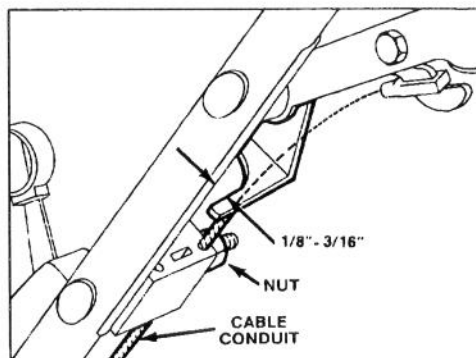

Figure 20
2. **CHECK ADJUSTMENT** (Fig. 20) — Move control bar toward handle until slack in wire is removed. Gap between brake lever and handle must be $1/8'' - 3/16''$. See step 3 for adjustment.
3. **ADJUST CABLE CONDUIT** — Loosen nut on cable bracket (Fig. 20). Insert $1/8'' - 3/16''$ object between brake lever and handle. Pull down on cable conduit until slack is removed. Then tighten nut.